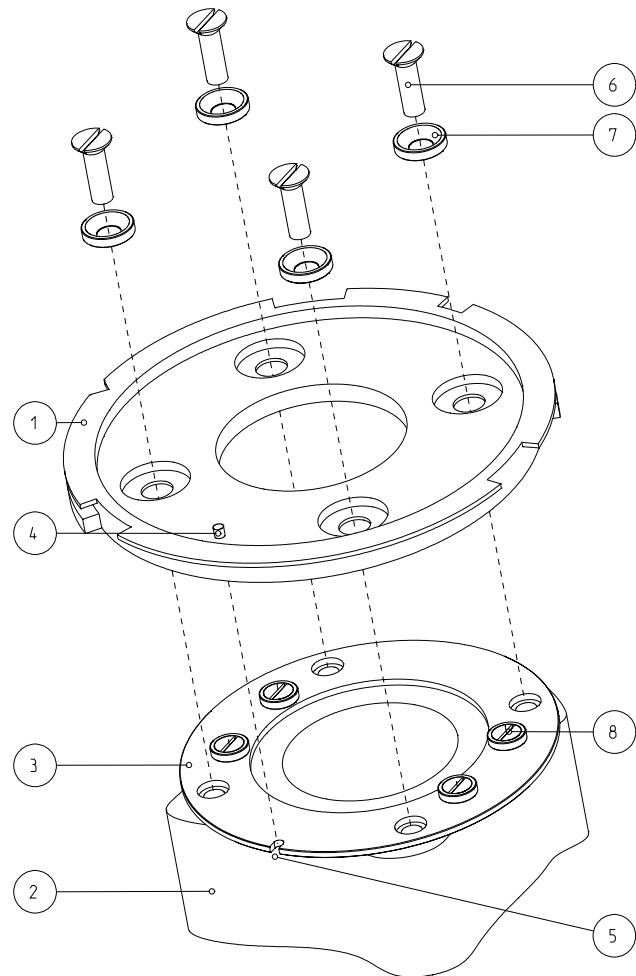

Figure 1: Mounting the P&P coupling flange
- Place the coupling flange (item 1, Figure 1) on the X-Ray tube housing (item 2, Figure 1) with factory mounted alignment ring (item 3, Figure 1)
- Positioning the reference pin (item 4, Figure 1) to the notch (item 5, Figure 1) of the alignment ring.
- Secure it with the four countersunk screws M6 x 25 mm (item 6, Figure 1) and rings (item 7, Figure 1)
*Never loosen lacquered screws (item 8, Figure 1. This will ruin the factory alignment of the focus.